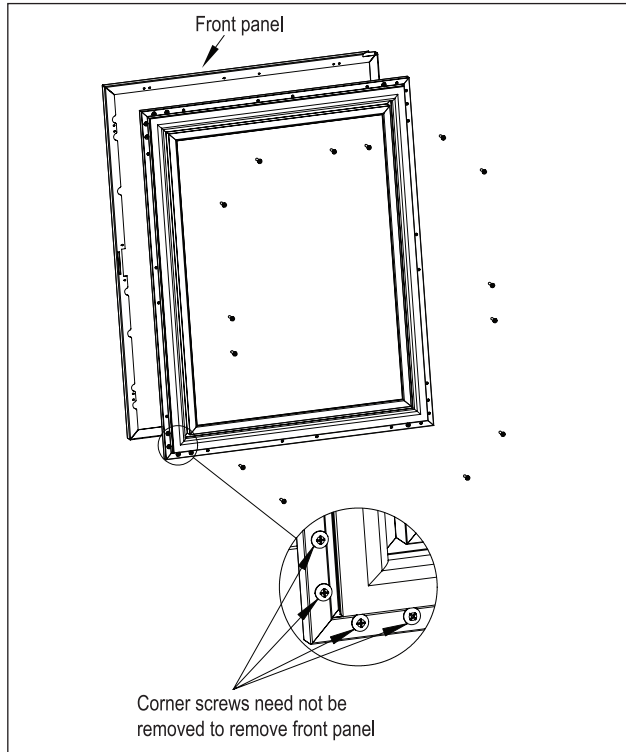

Figure 11. Removing Front Panel
7). Remove the front panel from the door assembly by removing the door gasket and then removing the overlay mounting screws, 4 per side, from the perimeter of the door assembly (Fig. 11). Rotate the front panel 180°. The top becomes the bottom. Reattach using the same screws and mounting holes and then reinstall the door gasket.